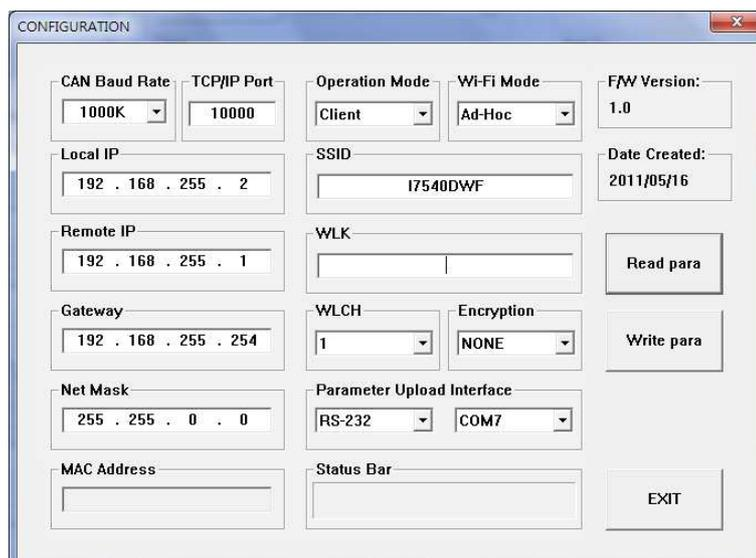

Figure 4-6: Client connection mode
- in Figure 4-6
- 02 、 TCP/IP Port : This field is used to set TCP/IP port of Connection according to the actual conditions. The case is set TCP/IP port as 10000 in Figure 4-6